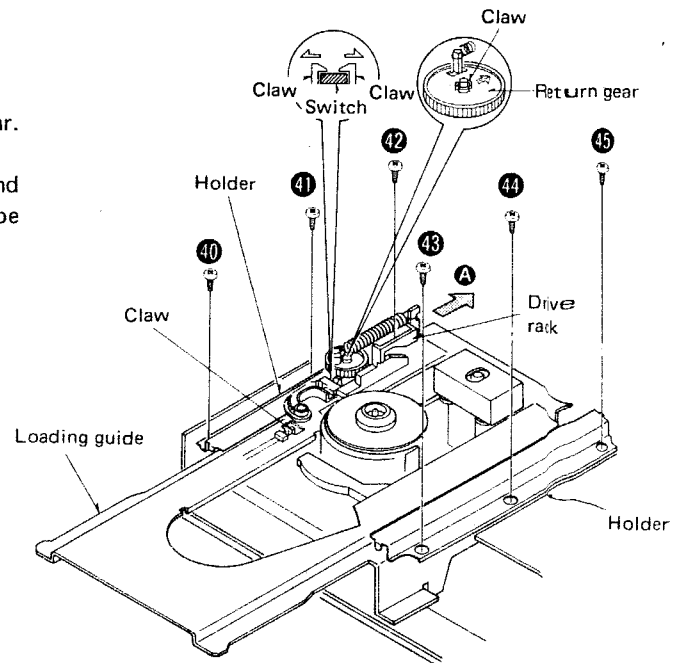

Fig. 13
2. Release the 2 claws of close switch cover to release the switch [Fig. 13]
2. Release the return gear claw to remove the return gear. [Fig. 13]
3. Push the drive rack in the direction of arrow A, and release the drive rack claw, then the drive rack can be removed downward. [Fig. 13]